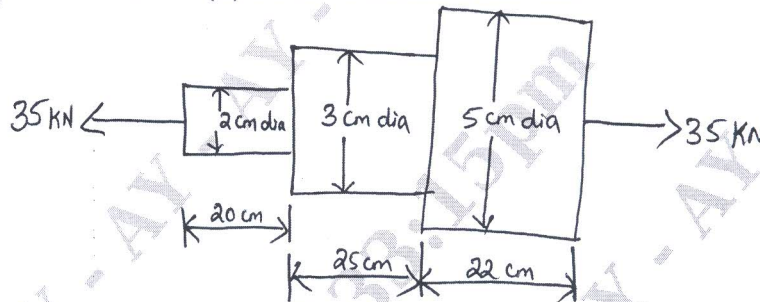

Fig.Q2(a)
- 2 a. An axial pull of 35 kN is acting on a bar consisting of three lengths as shown in Fig.Q2(a). If a Young's modulus = $2.1 \times 10^5 \text{ N/mm}^2$, determine: